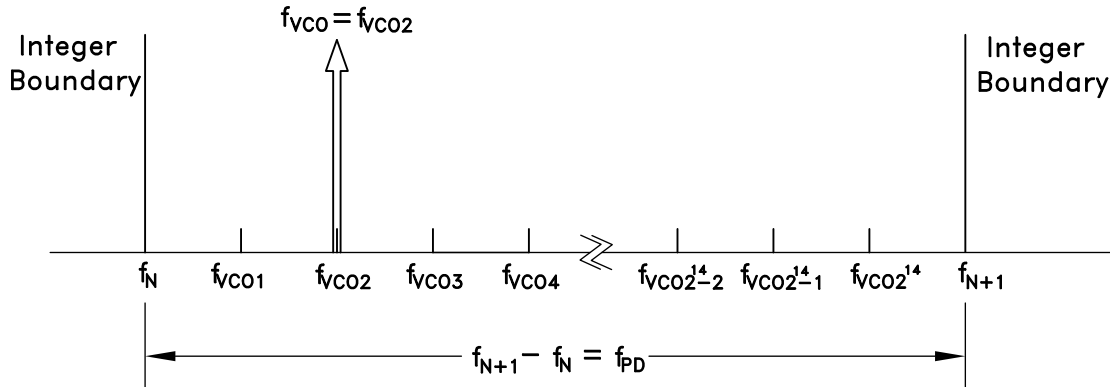

Figure 71. Exact Frequency Tuning
and  $f_{VCOk}$  are the channel step frequencies where  $0 < k < 2^{24}-1$ , As shown in Figure 71.
Some fractional PLLs are able to achieve this by adjusting (shortening) the length of the Phase Accumulator (the denominator or the modulus of the Delta-Sigma modulator) so that the Delta-Sigma modulator phase accumulator repeats at an exact period related to the interval frequency ( $f_{VCOk} - f_{VCO(k-1)}$ ) in Figure 71. Consequently, the shortened accumulator results in more frequent repeating patterns and as a result often leads to spurious emissions at multiples of the repeating pattern period, or at harmonic frequencies of  $f_{VCOk} - f_{VCO(k-1)}$ . For example, in some applications, these intervals might represent the spacing between radio channels, and the spurious would occur at multiples of the channel spacing.
If it is desirable to have multiple, equally spaced, exact frequency channels that fall within the same interval (ie.  $f_N \leq f_{VCOk} < f_{N+1}$ ) where  $f_{VCOk}$  is shown in Figure 71 and  $1 \leq k \leq 2^4$ , it is possible to maintain the same integer-N (Reg 03h) and exact frequency register (Reg 0Ch) settings and only update the fractional register (Reg 04h) setting. The Exact Frequency Channel Mode is possible if EQ 16 is satisfied for at least two equally spaced adjacent frequency channels, i.e. the channel step size.
To configure the HMC1190ALP6NE for Exact Frequency Channel Mode, initially and only at the beginning, integer (Reg 03h) and exact frequency (Reg 0Ch) registers need to be programmed for the smallest  $f_{VCO}$  frequency ( $f_{VCO1}$  in Figure 71), as follows:
1. Calculate and program the integer register setting  $\text{Reg 03h} = N_{INT} = \text{floor}(f_{VCO1}/f_{PD})$ , where  $f_{VCO1}$  is shown in Figure 71 and corresponds to minimum channel VCO frequency. Then the lower integer boundary frequency is given by  $f_N = N_{INT} \cdot f_{PD}$ .
$\text{Reg04h} = N_{FRAC} = \text{ceil}\left(\frac{2^{24}(f_{VCOk} - f_N)}{f_{PD}}\right)$  where  $f_N = \text{floor}(f_{VCO1}/f_{PD})$ , and  $f_{VCO1}$ , as shown in Figure 71, represents the smallest channel VCO frequency that is greater than  $f_N$ .
4. To change from channel 1 ( $f_{VCO1} = 2800.2$  MHz) to channel 2 ( $f_{VCO2} = 2800.3$  MHz), only Reg 04h needs to be programmed, as long as all of the desired exact frequencies  $f_{VCOk}$  (Figure 71) fall between the same integer-N boundaries ( $f_N < f_{VCOk} < f_{N+1}$ ). In that case